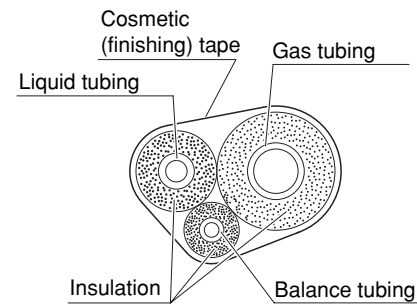

Fig. 5-7
- Thermal insulation must be applied to all unit tubing, including the distribution joint (purchased separately). (Fig. 5-7)